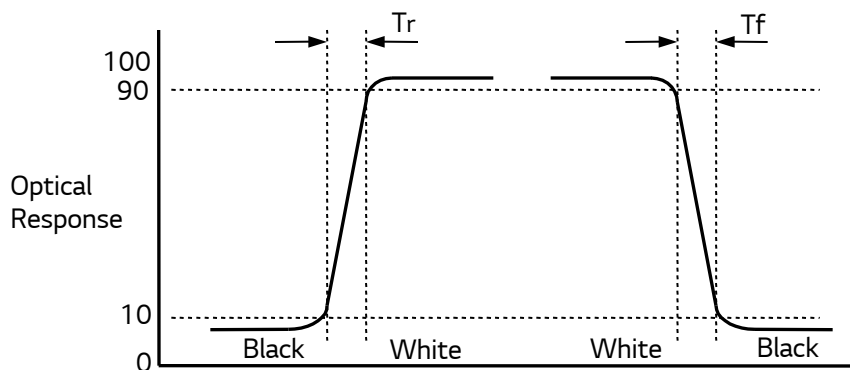

FIG. 8 Response Time
4. Response time is the time required for the display to transit from G(N) to G(M) (Rise Time, Tr_R) and from G(M) to G(N) (Decay Time, Tr_D). For additional information see the FIG. 8. ($N < M$)